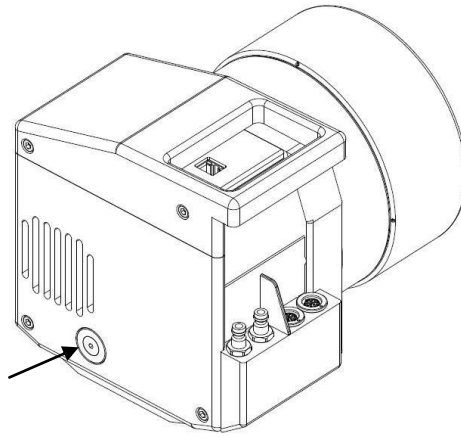

Figure 20 View of the pump out port cover on the AtlasS2 detector
3. Unscrew cover from pump-out port (see below). For the Eos detector this is underneath the collision protection cover which is removed by loosening four screws (as shown in below). On the S2 detector range the pump-out port is accessed from the rear end of the detector by removing a circular cover (as shown in Figure 20 below) by inserting the appropriate hexagon key and rotating anticlockwise until the cover becomes loose and drops out.